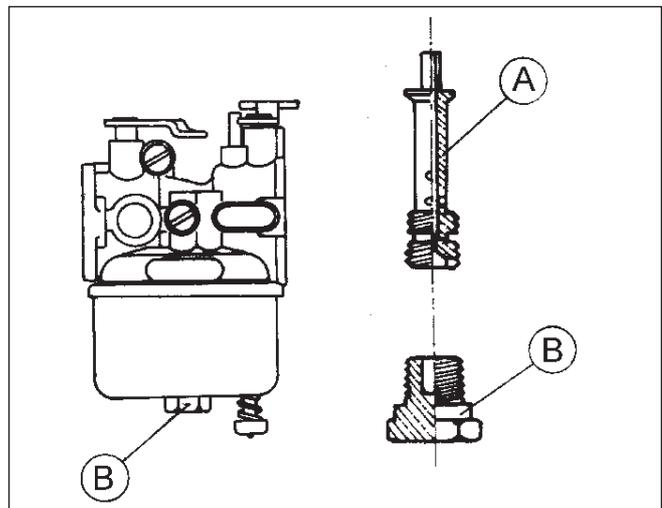
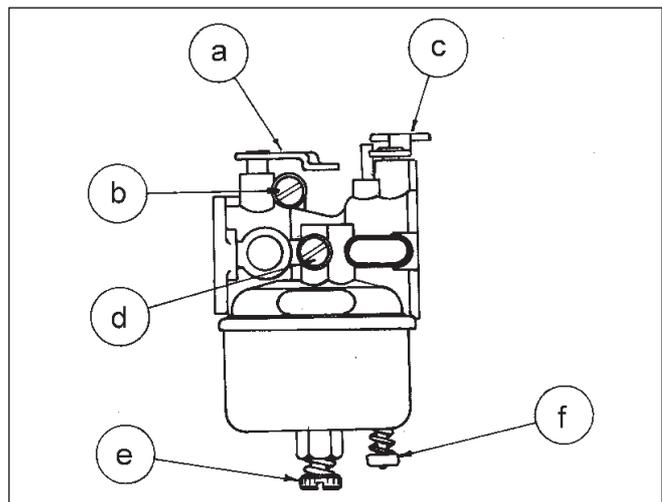

Fig. 13
Fig. 14
The carburetors may be found with fixed (Fig 13) or adjustable (Fig 14) jet.
**a) ADJUSTMENT (ADJUSTABLE JET) (FIG 14)**
- Disconnect fuel pipe. Empty fuel bowl by means of the push button (f - Fig 14).